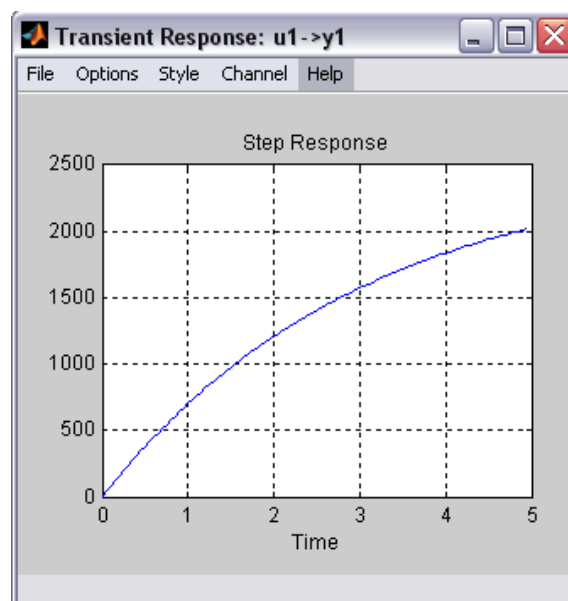
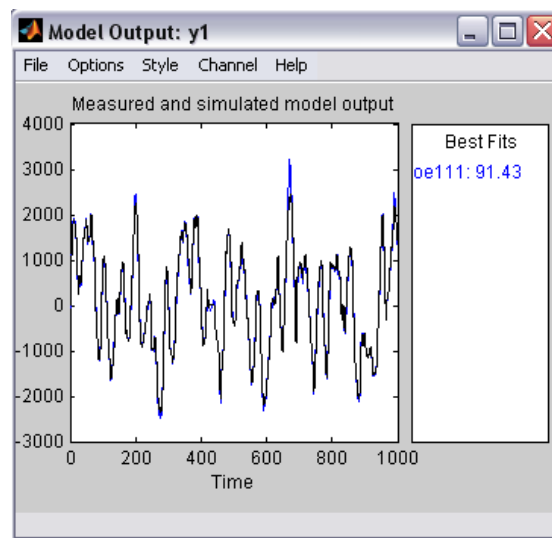

Figure 19 Step response
Figure 20 Model response vs. measured response
- You can check the quality of the response of the identified model by the step response analysis, transient response, pole and zeros map, frequency response and model residuals. Select any of the model views to view the results, for example the transient response (Figure 19) or the model output (Figure 20).